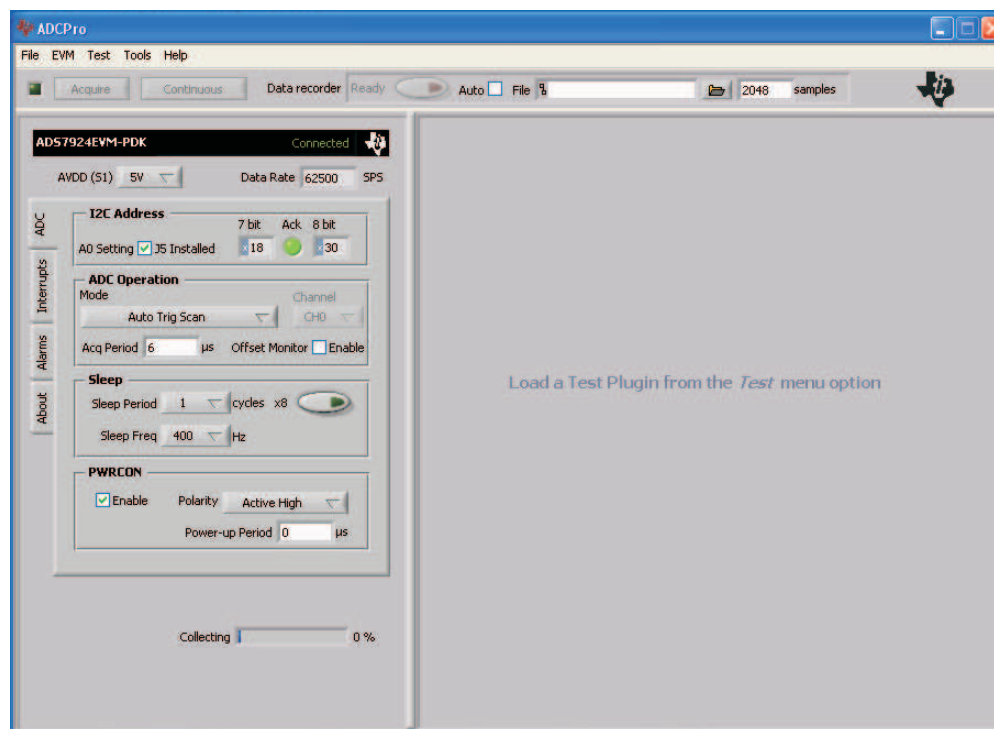

Figure 8. ADS7924EVM-PDK Plug-In Display Window
2. Select *ADS7924EVM* from the EVM drop-down menu. The ADS7924EVM-PDK plug-in appears in the left pane, as shown in Figure 8.
The ADS7924EVM-PDK plug-in for ADCPro provides complete control over all settings of the ADS7924. It consists of a tabbed interface (see Figure 8), with different functions available on different tabs. These controls are described in this section.